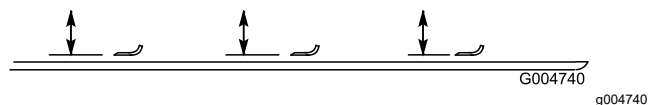

Figure 125
2. Rotate the blade until the ends face forward and backward and measure from the inside of the cutting unit to the cutting edge at the front of the blade (Figure 125).